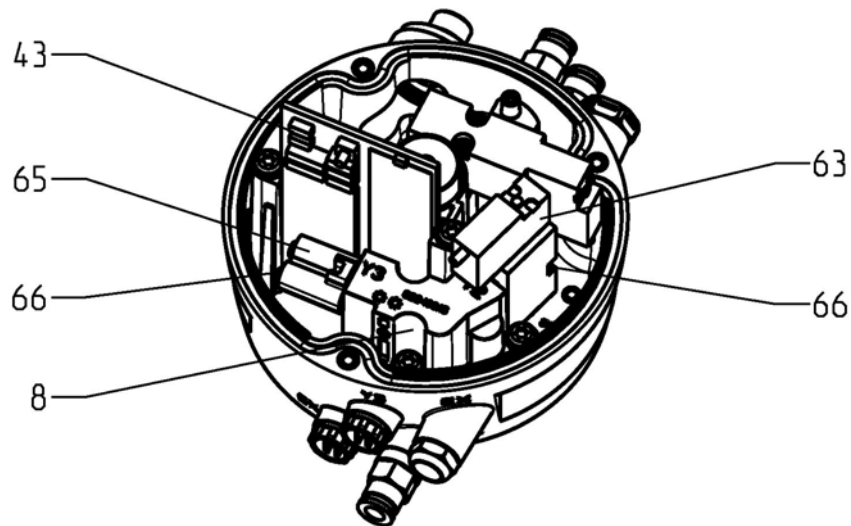

Fig.32
- for version 3PV (1x solenoid valve each 24VDC/NC to Y2 and Y3), see Figure 32
3. Insert the pneumatic block (8) in the base (5) and heed the positioning aid on the screw dome (8.1).
4. Tighten the pneumatic block (8) using 3x screws (57) in the base (5):